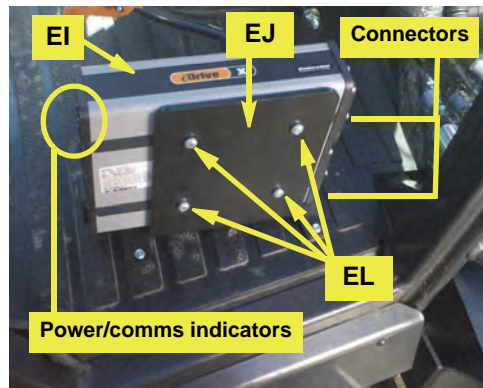

Figure 1b: ECU installed
- b. Using hardware **EM** attach the ECU **EI** to the inner face of bracket **EJ**. Have the connector sockets at the front and the power and communications indicators at the (rear) top (Figure 1b).